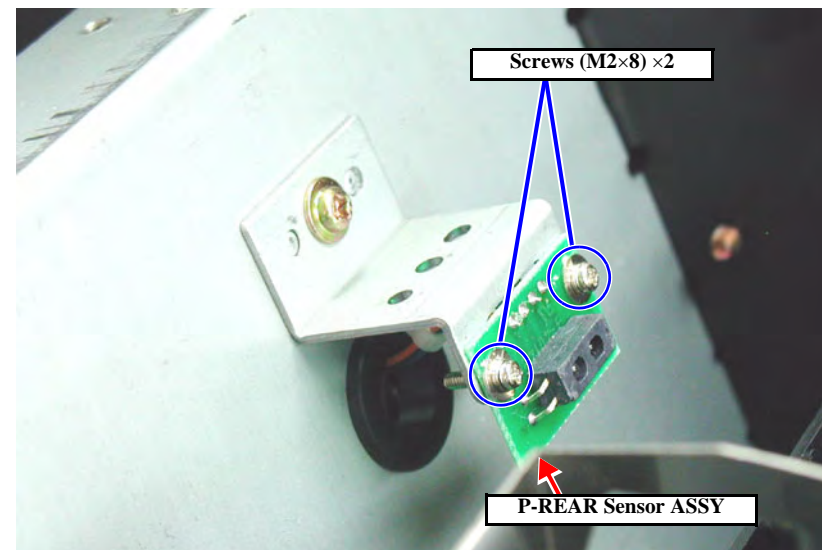

Figure 4-61. Removing the P_REAR Sensor ASSY
10. Remove the two (CP(W): M2×8) screws securing the P_REAR Sensor ASSY and remove the P_REAR Sensor ASSY. (See Figure 4-61)